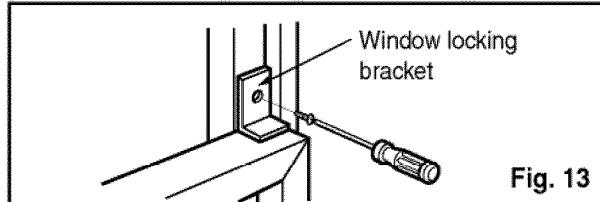

Fig. 13
9. Attach the Window locking bracket with a screw (Type C.) (See Fig. 13)